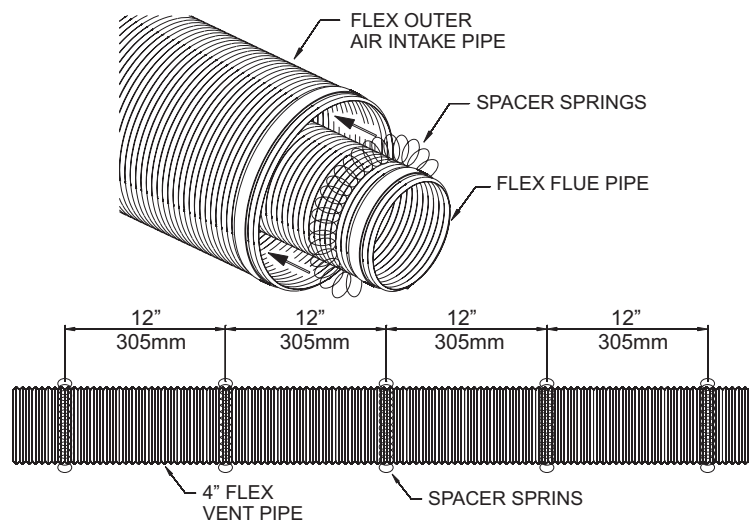

Figure 33
9. Install the spring spacers provided around the 4" diameter flex flue at 1 foot intervals, then slide the flue pipe with spacers into the 7" diameter outer flex vent pipe. Make sure the springs are spaced evenly starting at 12 inches from the fireplace collar. See **Figure 33**.